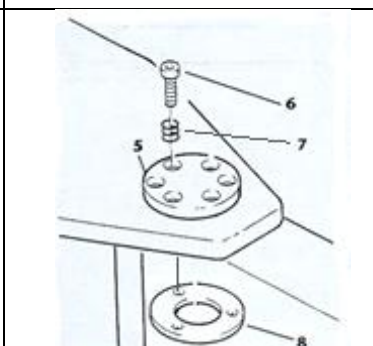

fig. 50
5. Insert in the remaining holes of the upper side pivots' flange **5**, the springs **7** and the screws **6** checking carefully that the shank of the screws fits into the housing on the pressure plates **8** (fig. 50).